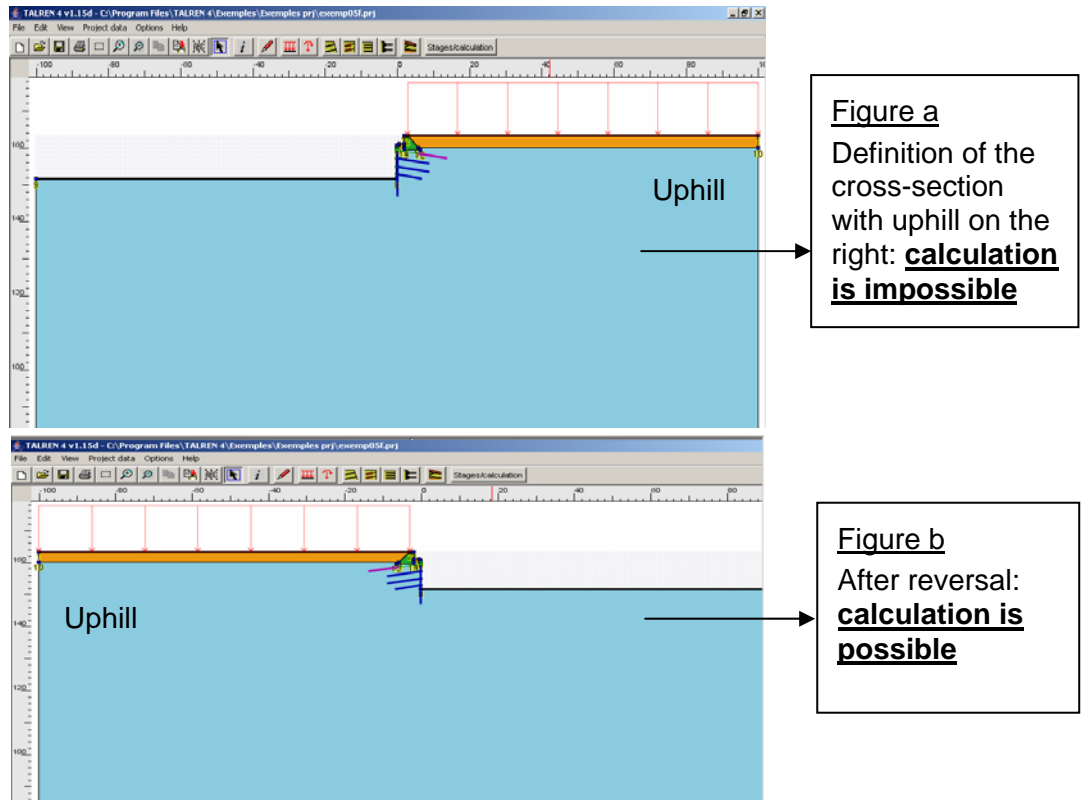

Figure 15: example of a model reversal
- either to reverse the model in the current file. In this case, all the x values and the angles (load inclinations, reinforcements angles, etc) will have their sign changed (from positive values to negative values and vice versa). The project file will keep the same name. This case is relevant when defining a cross-section based on a document with the uphill on the right: you have to reverse the model to be able to perform the calculation "in the right direction" (case of Figure 15).